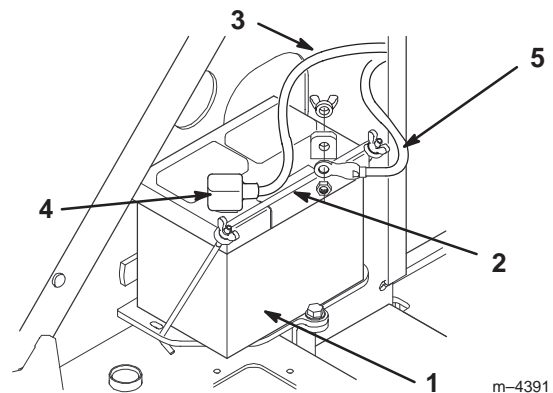

Figure 3
2. Remove the wing nuts and bar securing the battery (Fig. 3).
10. Install the battery into the chassis (Fig. 3).
11. Secure the battery with the bar and wing nuts removed previously (Fig. 3).
12. Using the bolt and wing nut supplied with the battery, connect the positive (red) cable to the positive (+) battery post (Fig. 3). Slide the rubber cover over the battery post.
13. Using the bolt and wing nut supplied with the battery, connect the negative (black) cable to the negative (-) battery post (Fig. 3).